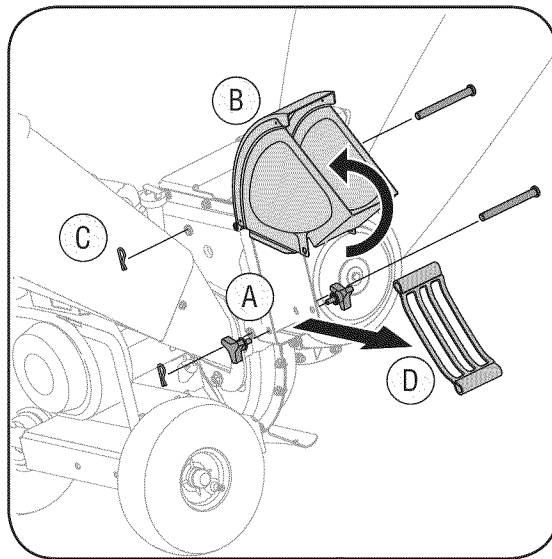

Figure 12
3. a. Remove the bag and two wing knobs on each side of the chute deflector. See Figure 12.
d. Remove the flail screen from inside the housing and clean the screen by scraping or washing with water. See Figure 12.